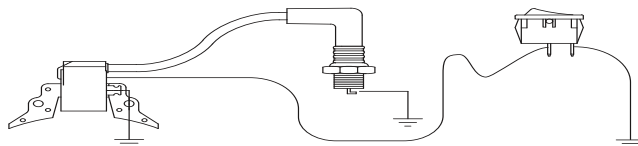

Figure 5-5. OFF-ON Switch Test Points
- See Figure 5-5. Disconnect Point A from switch.